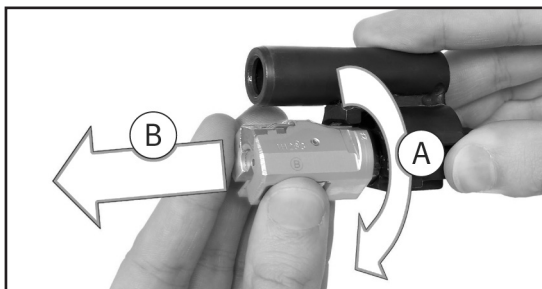

Fig. 39 – Remove the bolt head
2. Turn locking piece clockwise (Fig. 39 A)
3. Remove locking piece from bolt head carrier by bringing in forward (Fig. 39 B)